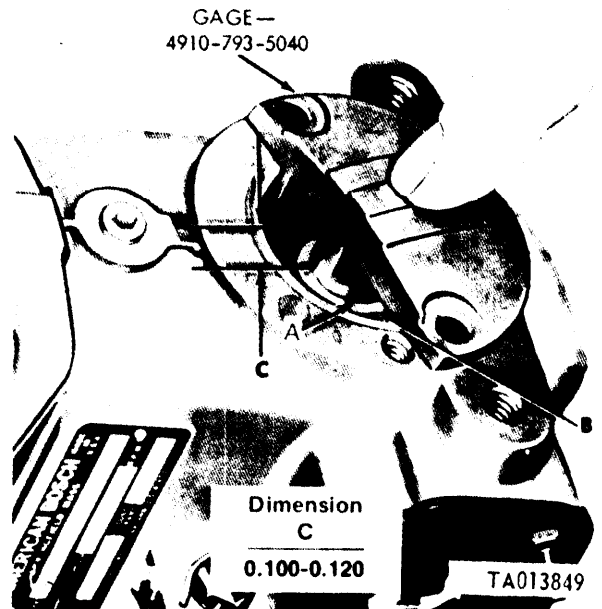

Figure 3-145. Selecting proper inner spring spacers using gage.
(3) Refer to figure 3-145. Position governor inner spring (A) in housing and install gage as shown. Using gage and improvised tool, install inner spring spacers (B) to give dimension (C) between the spacers and gage. Remove gage, selected inner spring spacers, and governor inner spring. Retain selected spacers for future assembly.